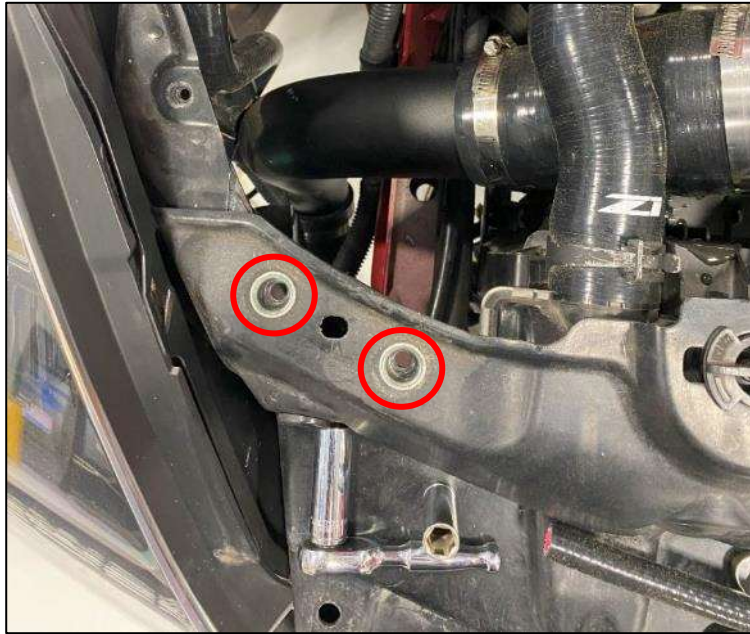

Figure 60
2. Remove the (2) two bolts on the Passenger Side Core Support. *Figure 60.*